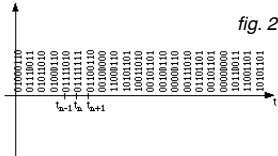

fig. 2
- Parallel mode: over several wires (Fig. 2)